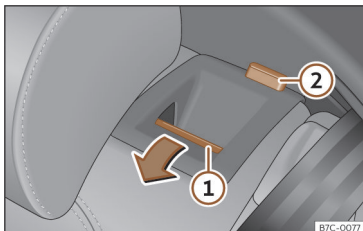

Fig. 95 Rear seat: folding down the backrest.
- Press the unlock button >>> **Fig. 95** ① forwards and at the same time fold the backrest down. The rear seat backrest is not engaged when the red marking of the button ② is visible.